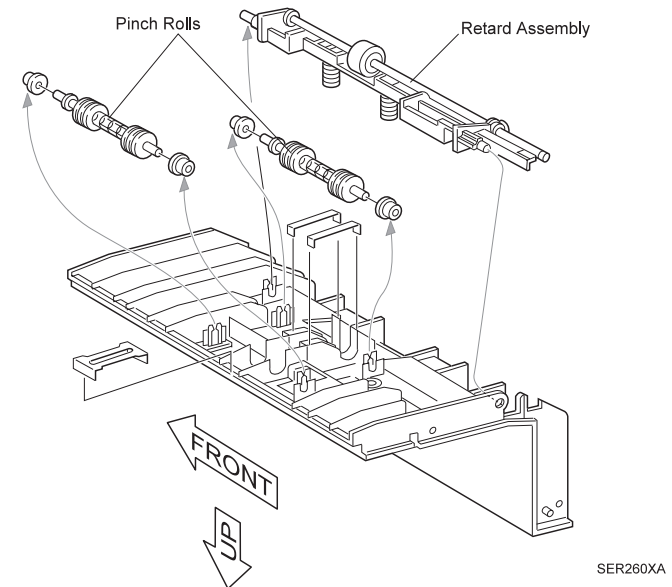

Figure 4-20. Pinch Roll & Retard Assembly
1. Reinstall the Pinch Rolls and Retard Assembly into the slots in the Upper Cover (Figure 4-20).